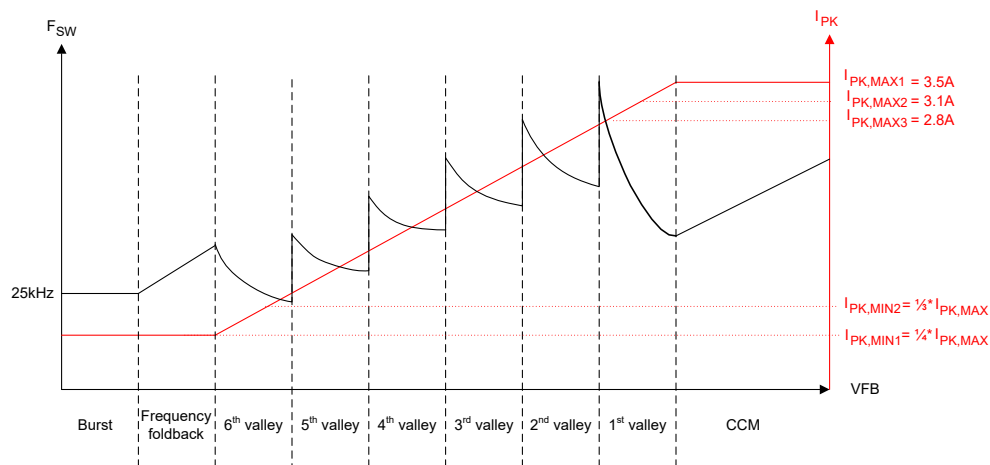
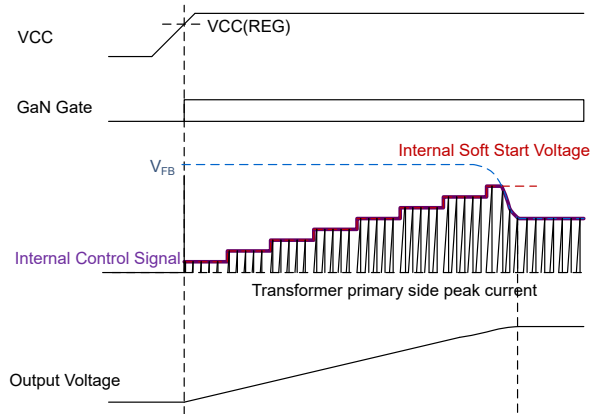

Figure 7-4. UCG2883x/4x Control Law
Figure 7-9. Soft Start Sequence
Connect the feedback (FB) pin to the collector of the optocoupler for output regulation. This pin has an internal 60kΩ pull up resistor for optocoupler bias. The instantaneous voltage on this pin determines the switching frequency, peak current and mode of operation (burst, foldback, valley switching or CCM) as per the control law in Figure 7-4 to deliver the required output power. Connect a 100pF or 220pF capacitor from this pin to ground for high frequency noise filtering.
Hence, in UCG2883x/4x, in every switching cycle, the primary GaN HEMT turns off after reaching the peak current threshold and turns on next at a target valley in magnetizing ring during discontinuous mode (DCM) operation. The instantaneous primary peak current and target valley is determined by the feedback (FB) pin voltage as per the control law of Figure 7-4. Connect the FB pin to the optocoupler collector. The negative feedback loop sets FB pin voltage to the required value to support a certain V_{OUT} and P_{OUT} on the output. The device can operate in one of the four modes of operation: burst, frequency foldback, valley switching or continuous conduction mode, as described later.
In the control law shown in Figure 7-4, the UCG2883x/4x offers flexibility to select a max peak current $I_{PK,MAX}$ to optimize for the switching frequency at rated load and transformer size. For each $I_{PK,MAX}$ setting, a scaling ratio of 1/3rd or 1/4th is available for the minimum peak current $I_{PK,MIN}$. This $I_{PK,MIN}$ value determines the switching frequency and losses in light load conditions when the flyback converter is operating in frequency foldback or burst modes. For all values of $I_{PK,MAX}$ and $I_{PK,MIN}$, the slope of control law peak current vs feedback voltage remains the same, as per Equation 1. Table 7-5 shows the threshold voltages for transition between different modes and between valleys for different peak current settings of Table 7-2.
The UCG2883x/4x is designed to operate with soft switching and primary FET turn-on at a valley to reduce switching losses. The converter operates in valley switching except during peak load transients during which control can transition to CCM mode (if enabled using CFX pin). During valley switching mode, the target valley and peak current threshold are governed by the control law of Figure 7-4 and Equation 1:
As shown in Figure 7-4, once the boundary of 1st valley QR operation is reached with increasing output power, the control clamps I_{PK} to the maximum selected value $I_{PK,MAX}$, and begins to reduce the secondary conduction time T_{OFF} in CCM mode. This reduction in T_{OFF} is proportional to increase in FB pin voltage, until 30% of the QR mode off-time to reach maximum $1.7\times$ the QR mode output power delivery capability. Use a primary side magnetizing inductance L_M large enough to not hit the frequency clamp during CCM mode and avoid any subharmonic oscillations which can increase output voltage ripple, depending on application requirements. In CCM mode, the clamping frequency for the switching frequency clamp is doubled to maximize the peak power capability. For long duration output power transients, the converter returns to 1st valley QR mode after expiry of the 10ms CCM timer for 4 switching cycles of QR mode operation and resumes CCM operation. This operation repeats every 10ms, until the power becomes lower so that the CCM operation is no longer needed. The device offers flexibility to enable or disable CCM mode operation with a resistor from the CFX pin to GND as per values in Table 7-4.
When turned on, a flyback converter starts with 0V output voltage. The low voltage can cause the feedback voltage FB to clamp to the maximum value and trigger overload protections. To prevent the clamping from happening, the UCG2883x/4x starts in soft start mode. As Figure 7-9 shows, during this time, an internal FB voltage ramp increases in eight steps from 0V to the maximum value in 4ms. The maximum value of internal FB ramp is equivalent of 80% of the $I_{PK,MAX}$ setting and changes for different resistor settings on the IPS pin. During soft start, the smaller of this internal ramp voltage and actual FB pin voltage is used to determine the device operating point in the control law of Figure 7-4. Once the internal FB ramp voltage reaches the maximum value at the end of 4ms is when control is transferred to FB pin voltage for output regulation. Soft start sequence is executed every time at start up or when recovering from fault (auto-retry or latch) and brown-out conditions. The minimum frequency clamp is changed to 10kHz only during soft start (which is otherwise at 25kHz during normal operation). The 10kHz minimum frequency clamp helps at start-up when valleys are missing and the control law forces turn-on of primary GaN HEMT every 100μs from the last turn-on edge (if valleys are missing), to charge the output capacitor.